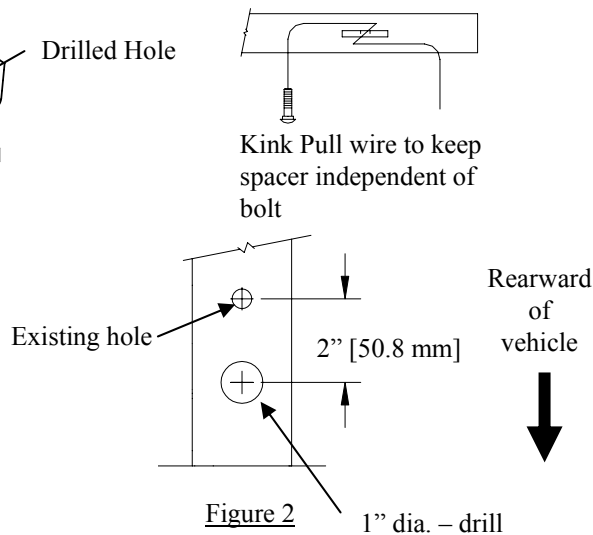

Figure 2
- Lower exhaust system at the rubber isolator (3). Spraying a lubricant on the metal hanger rod and the rubber isolator helps removal.
- Drill 1" access hole in bottom of each frame rail. See Figure 2.